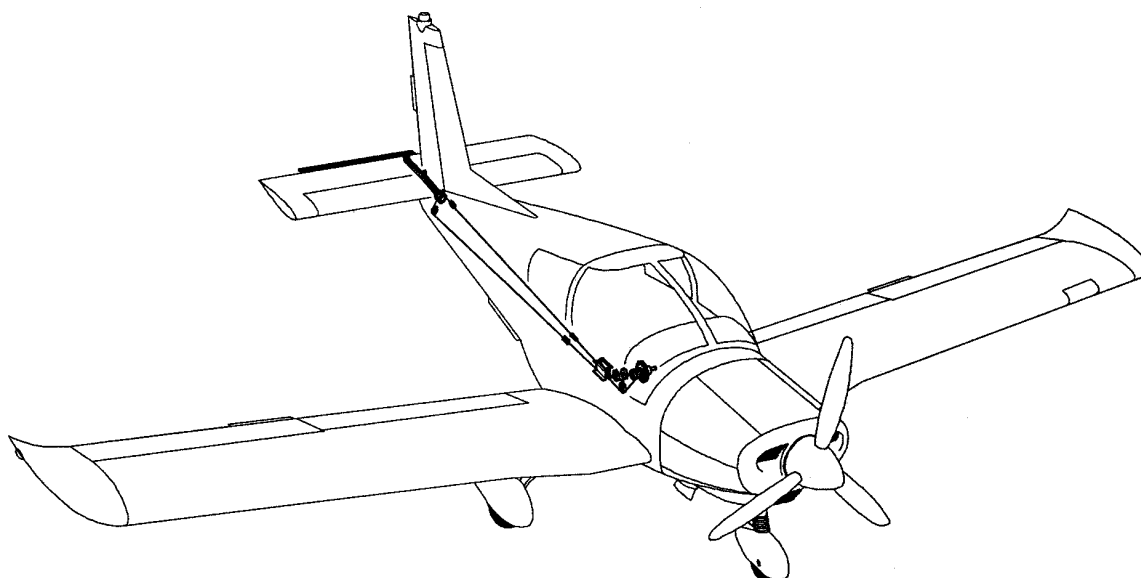

Fig. 7-2 Longitudinal Trim
- 1) Longitudinal Trim (Fig. 7-2) is of mechanical type and consists of the control wheel of longitudinal trim located on the central panel between the front seats. The forces playing the role during elevator control are balanced aerodynamically, by means of the trim tab.